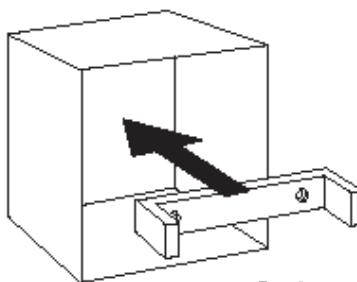

Fig. 1
- Screw the rod, by the marked end, through one of the holes of the staple (see figure 1).